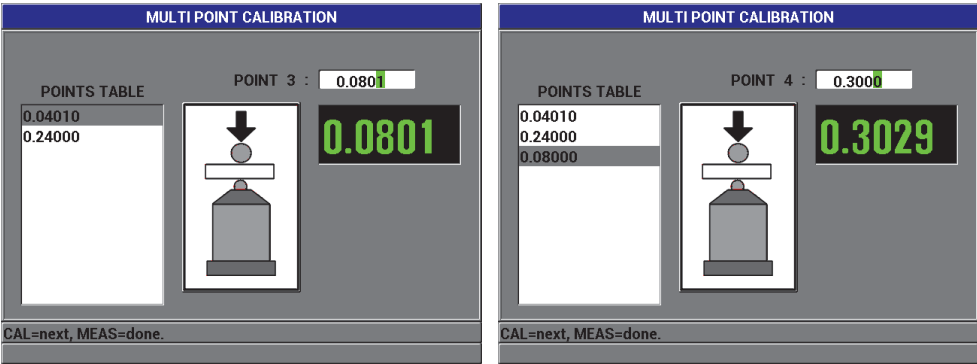

Figure 4-11 The MULTIPOINT CALIBRATION screen
8. Up to eight additional calibration points will be listed on the left side of the display (see Figure 4-11 on page 82) as follows: